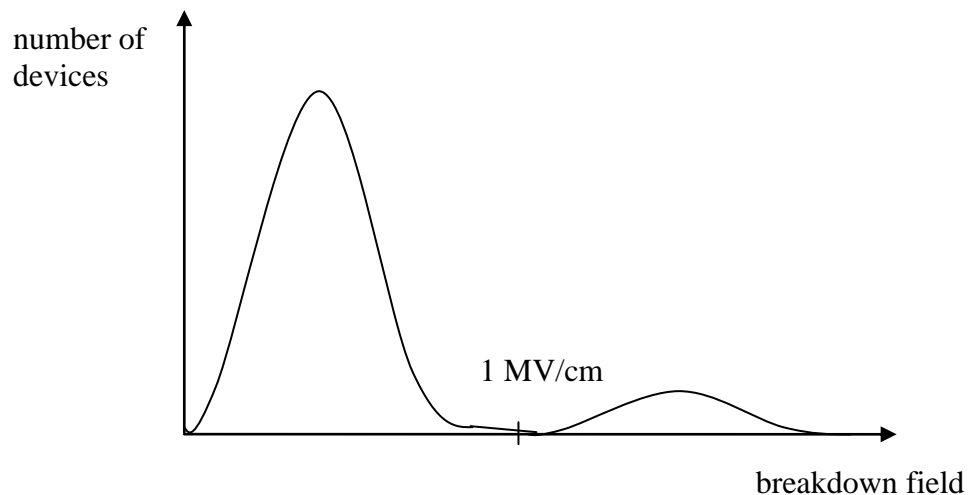

Figure 1.1
- c. In a reliability test of a batch of MOS capacitors the failure distribution was found to be bimodal, as illustrated in Figure 1.1. Discuss a possible failure mechanism in these capacitors and propose two prevention methods. (5)